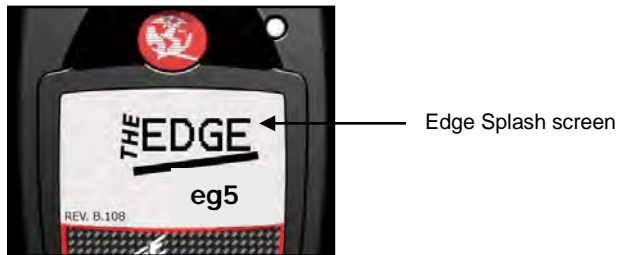

Figure 4-5: Splash screen
3. When the splash screen appears, press and **hold the run/stop** and **on/off enter** buttons. (See figure 4-5 for splash screen).